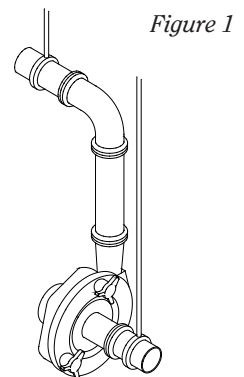

Figure 1
- Ensuring proper piping support and alignment at both the suction inlet and discharge outlet can help prevent serious damage to the pump housing (*Figure 1*).